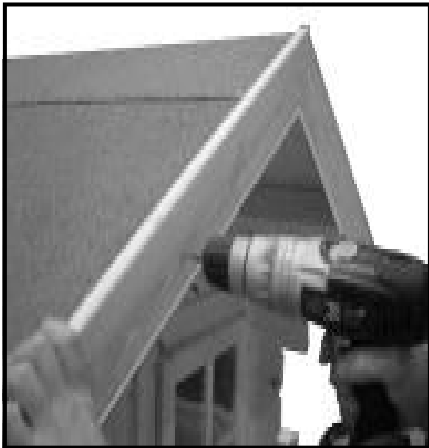

Fig K1
1. Fascia boards can now be drilled and screwed (fig K1) with 1x 50mm screw at each roof bearer and the roof edgings.